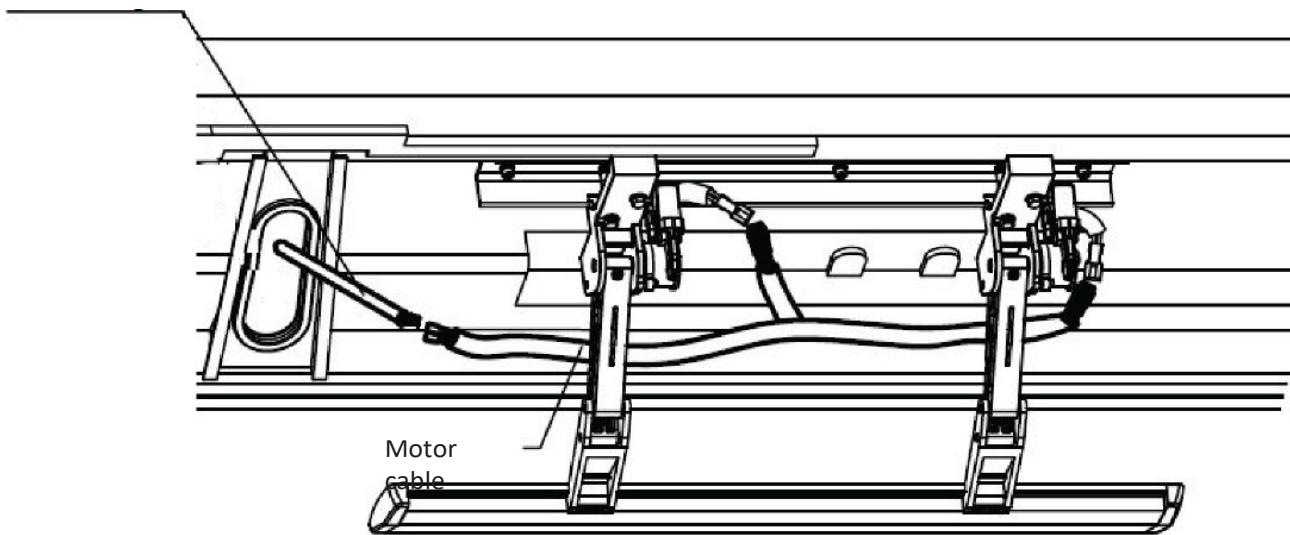

Figure 15: Plug connection motor cable inside-outside
Connect the lead/control cable (U) from the control unit to the vehicle battery. Connect the red lead to the positive (+) terminal of the battery, and the black lead to the negative (-) terminal of the battery. The cable is then connected to the control unit (T) and can be placed in battery compartment A (see Figure 15).
Remove the carpet on the driver's side. Route the cables as shown in the picture above (dashed lines). The motor cable is routed to the outside in area B (see figure 15 & 16). The signal cable is further routed to position C (see figure 15).